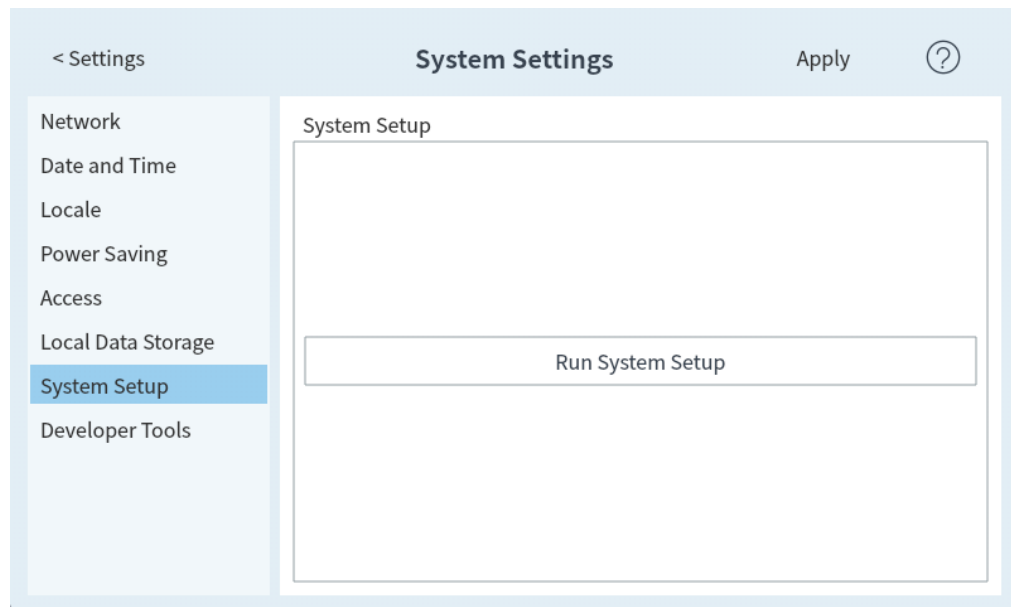

Figure 57. System Setup page
1. From the System Settings page, select the **System Setup** page selection button. The System Setup page appears. See Figure 57.